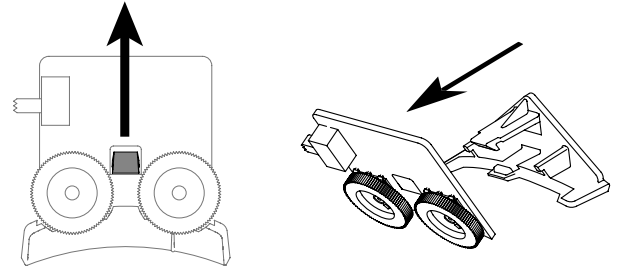

Figure 3.
1. Carefully push back the retaining latch and rock the control module circuit board away from the plastic mount as shown in figure 3.